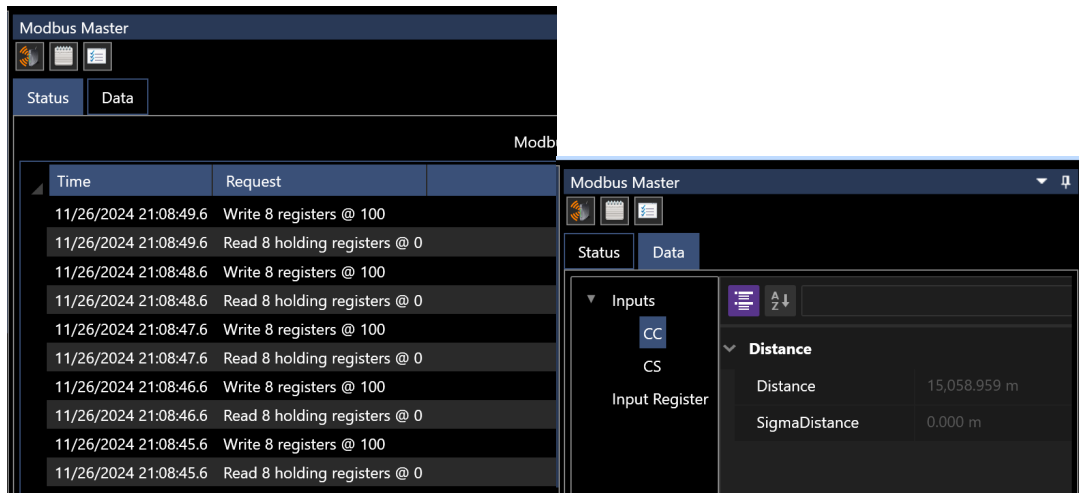

Figure 10 Modbus Master Input/Output Monitoring
1. Modbus Master (see Figure 10)